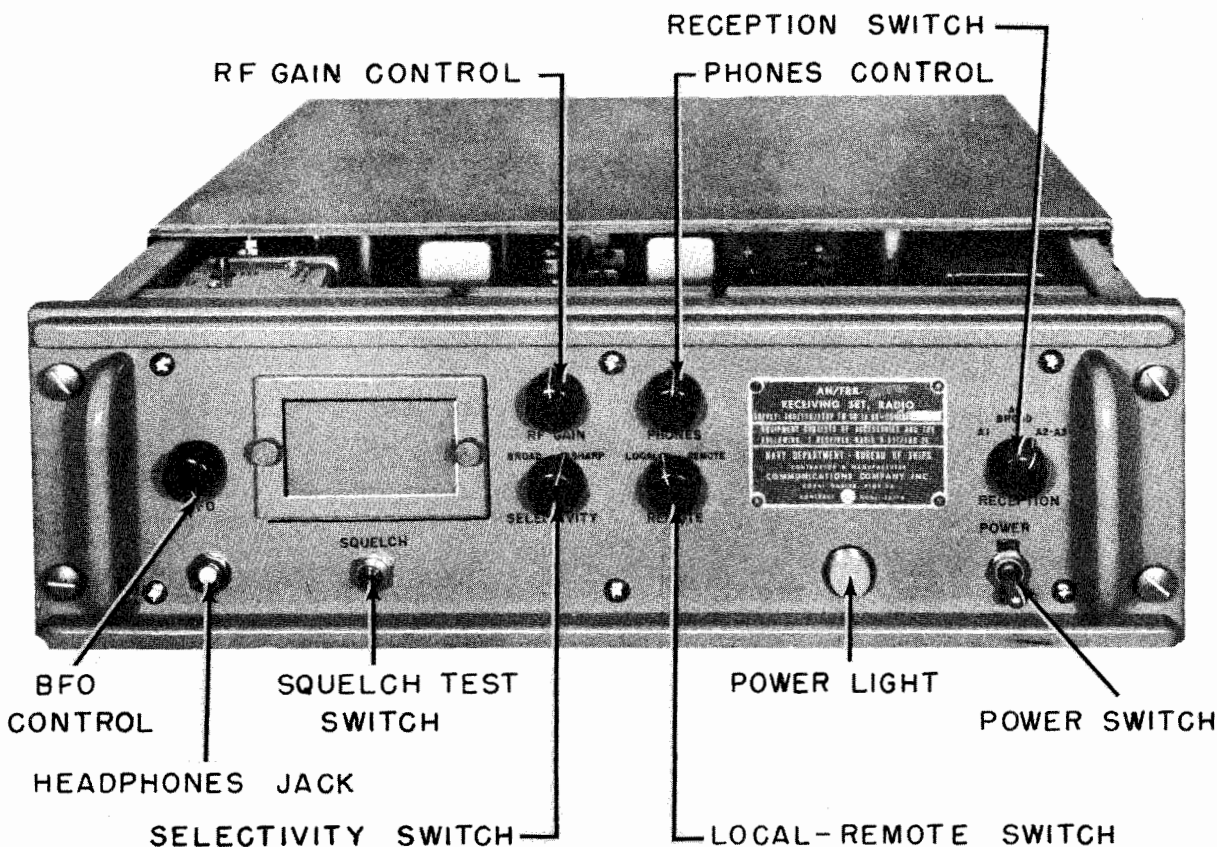

Figure 4-1. Front View of the Front Panel
a. FRONT PANEL CONTROLS.—These controls are used for turning the receiver ON or OFF; controlling the audio output to the head-telephones; squelch testing; selecting the mode of reception; receiver selectivity, local or remote operation and A1 reception tone. Their locations are indicated in figure 4-1.
(1) BFO CONTROL.—This control (R406) functions only when the receiver is operating on A1 or A1 BROAD. It varies the frequency of the BFO oscillator over a range of approximately 4000 cycles. This control should be at zero beat at approximately 50% rotation. The BFO transformer (T205) with an on-frequency signal near 50% rotation of the BFO control should give a beat note adjustment of approximately ± 1500 cycles.
(2) HEAD-TELEPHONE JACK.—This jack (J404) is provided for listening with 500 to 600 ohm head-telephones. When the PHONES level control (R404) is set at maximum level (clockwise), the output from the head-telephone jack will be about one percent of the power delivered to the AUDIO receptacle when its load is 600 ohms. Accordingly when the receiver is delivering 1.5 watts into a 600 ohm load, the maximum audio available at the head-telephone jack is 15 milliwatts into 600 ohm phones. Low impedance speakers and head-telephones below 300 ohms should not be plugged into this receptacle.
(3) SQUELCH TEST SWITCH.—This is a momentary operated push button switch (S402), used to disable the receiver squelch or to receive signals which are too weak to open the squelch. This switch is only operative in the A2-A3 position. The switch is normally open. If the SQUELCH threshold control (R217) has been adjusted to a point where the squelch is always open, the squelch test switch will have no effect.
(4) RF GAIN.—When the receiver is operating on either A1 or A1 BROAD positions, this control (R405) is operative and applies an adjustable amount of negative voltage to the AGC line which can vary the receiver gain over 100 db.